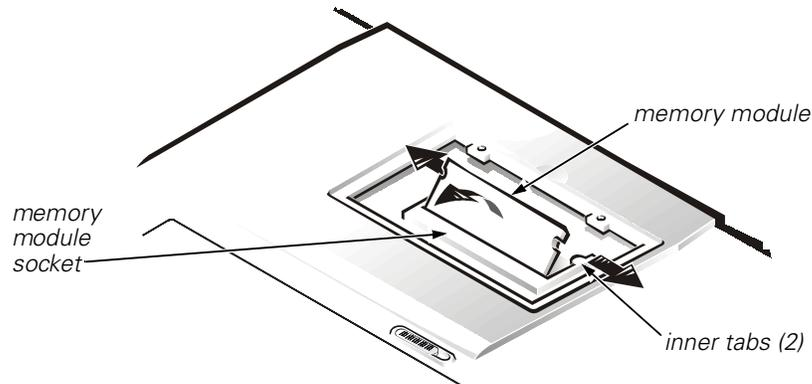

Figure 7. Bottom Memory Module Removal
3. To release the memory module from its socket, carefully spread apart the inner tabs of the memory module socket just far enough for the memory module to disengage from the socket (it should pop up slightly) (see Figure 7).